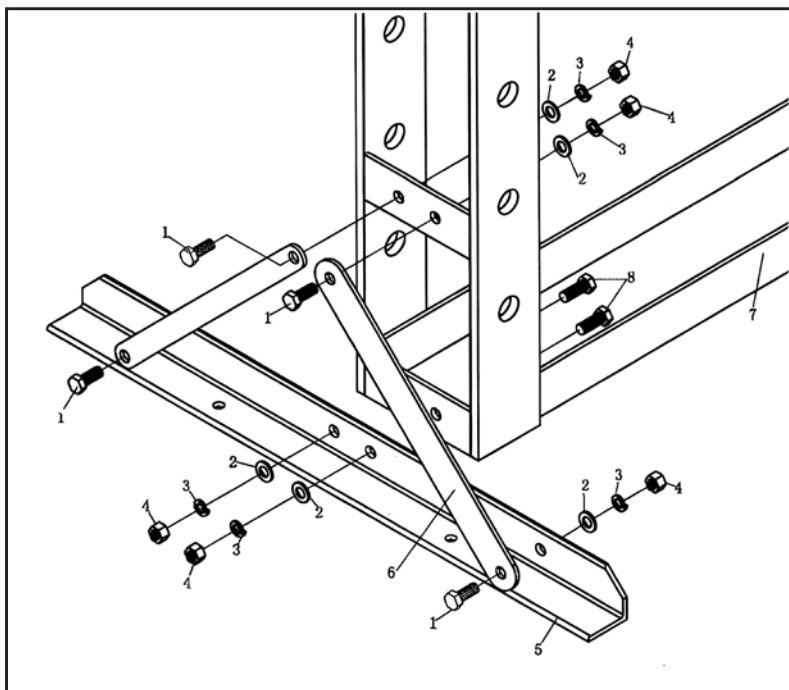

Figure 1
- The Bed Frame (11) is put at the bottom for convenient for packaging and transport.
- **Attach the Foot Section (05) and Support (06) to left and right Connecting Plate using Bolt (01), Washer (02), Lock Washer (03) and Nut (04).** (figure 1)
- Remove Gauge Plug, insert Nylon Ring (23) into Gauge Fitting and thread in Pressure Gauge (13) until tight. Ensure entire assembly is tight or it may leak.